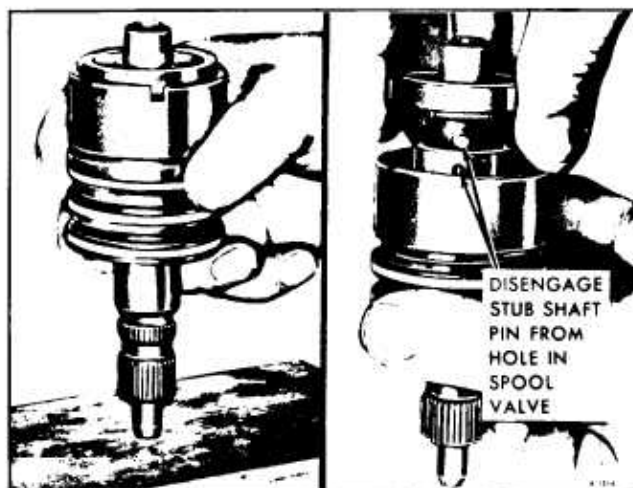

Figure 34—Removing Shaft Cap from Valve Body
a. While holding the assembly (stub shaft down), lightly tap the stub shaft against the bench until the shaft cap is free from the valve body (figure 34).
c. Carefully disengage the shaft pin from the valve spool and remove the shaft assembly (figure 34).